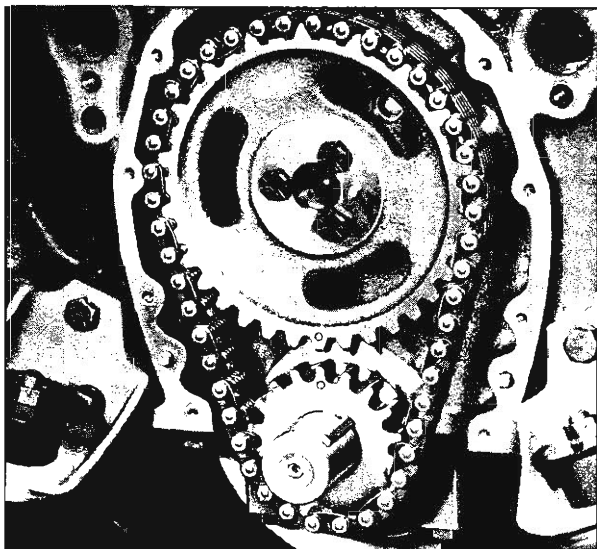

Fig. 13V—Timing Sprocket "O" Marks
2. Crank engine until "0" marks on camshaft and crankshaft sprockets are in alignment (fig. 13V).